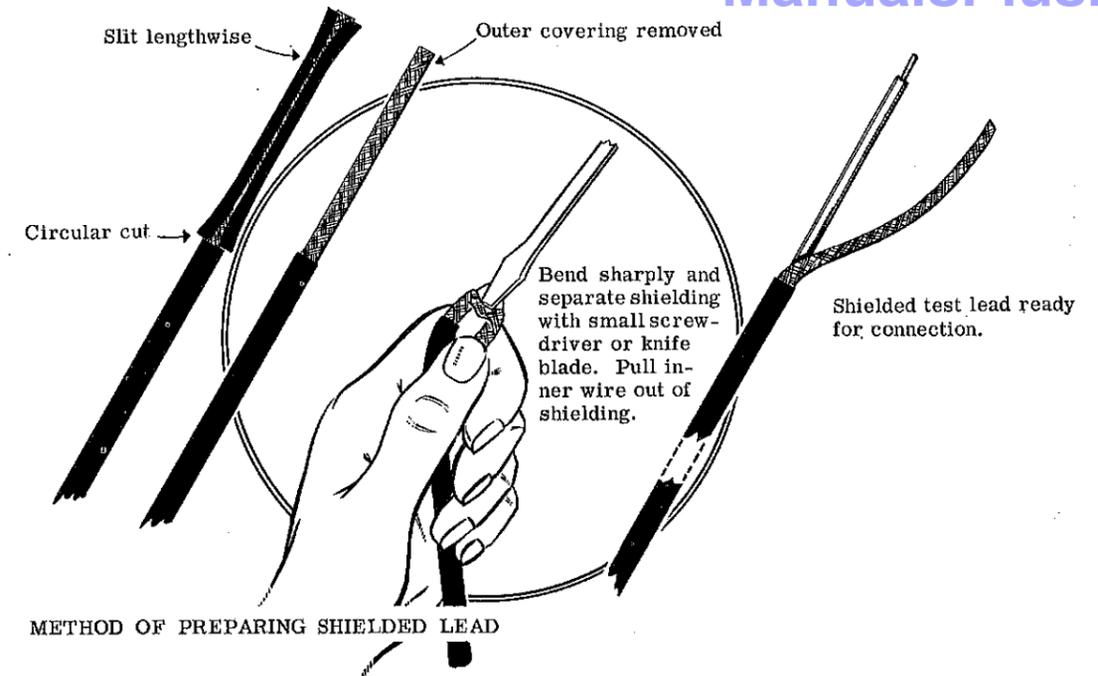

Figure 18
- () Prepare the audio cable. Strip approximately 1" of outer rubber insulation from each end of the cable. At each end, bend the exposed shielding braid over and make an opening in it with a sharp pointed tool of some kind, such as an ice pick. Pull the insulated inner conductor through and strip away approximately 5/8" of insulation. Check with Figure 18.